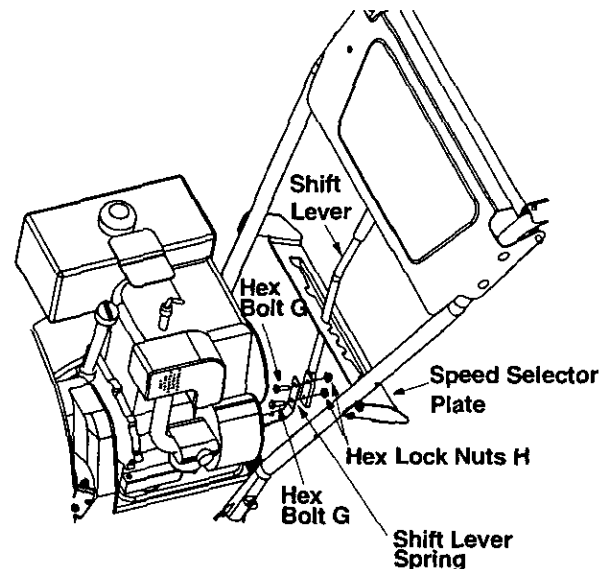

Figure 6
- Insert the shift lever through slot in the speed selector plate. See Figure 6. The bend in the lever should be towards the operator.
- Secure shift lever to the shift lever spring using two hex bolts (G) and hex lock nuts (H). See Figure 6. Tighten both bolts finger tight. At this point the shift lever and shift lever spring are not against each other. As you tighten the bolts and nuts with two wrenches, these will pull together.